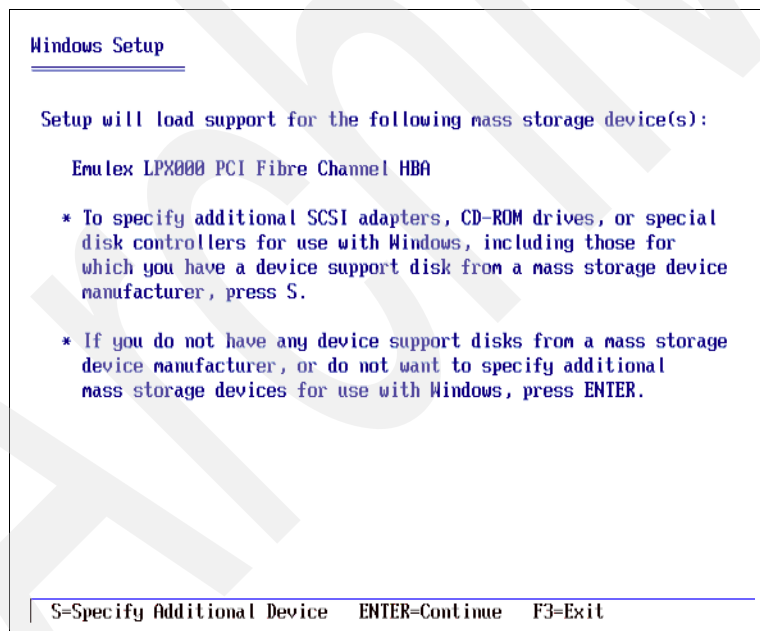

Figure 24-26 Specify driver
2. The setup asks if you want to specify an additional driver; press S (Figure 24-26) to confirm this.
3. The driver will load from the diskette drive and you are asked if you want to use it (Figure 24-27). Press Enter to confirm and load the driver. When it is done, it returns to the view shown in Figure 24-26 on page 599. Press Enter to continue the setup.